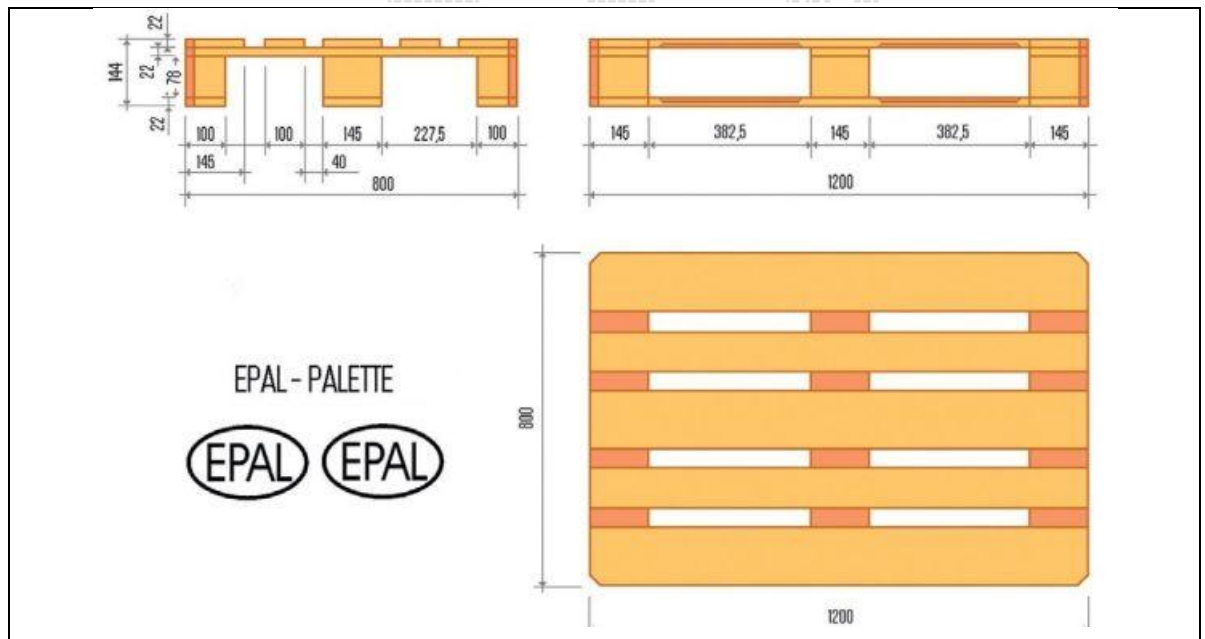

Fig 6.2: Pallet Dimensions
- (Fig 6.2: EPAL Pallet Dimensions)